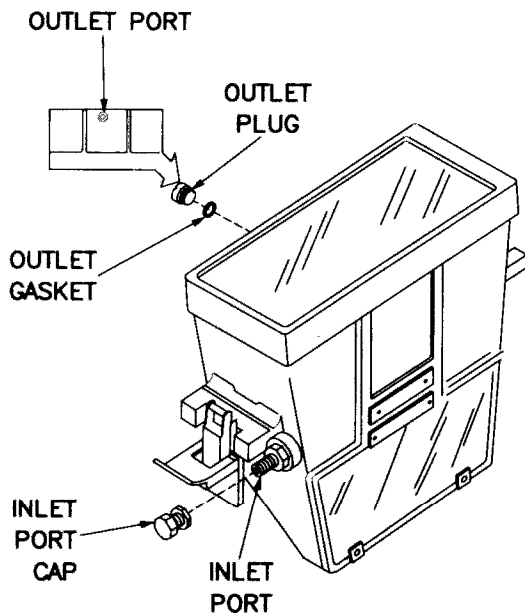

Figure 3-33 M47 Tank Periscope Body Assembly
o. Periscope, M47 Tank (fig. 3-33).